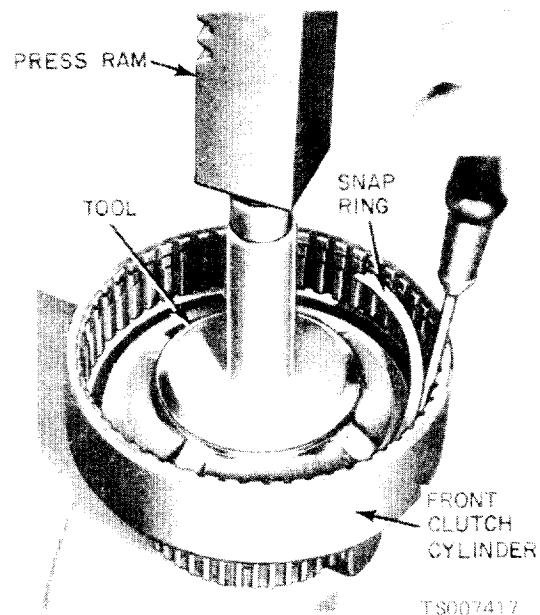
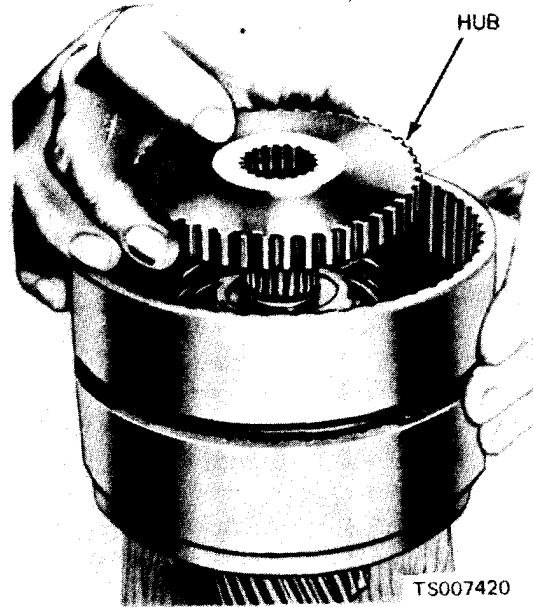

Figure 7-29. Removing Front Clutch Snap Ring.
Figure 7-32. Installing Front Clutch Hub.
(1) Remove the clutch cover snap rings with a screwdriver, and remove the input shaft from the clutch drum.
(2) Remove the thrust washer from the thrust surface of the clutch hub. Insert one finger in the clutch hub, and lift the hub straight up to remove the hub from the clutch drum.
(3) Remove the composition and the steel clutch plates, and then remove the pressure plate from the clutch drum.
(4) Place the front clutch spring compressor on the release spring. Position the clutch drum on the bed of an arbor press, and compress the release spring with the arbor press until the release spring snap ring can be removed (fig. 7-29).
(1) Lubricate all parts with transmission fluid. Install a new piston inner seal ring in the clutch cylinder. Install a new piston outer seal in the groove in the piston.
(2) Install the piston in the clutch housing. Make sure the steel bearing ring is in place on the piston.
(3) Position the release spring in the clutch cylinder with the concave side up. Place the release spring compressor on the spring, and compress the spring with an arbor press. Then install the snap ring as shown in figure 7-29. Make sure the snap ring is fully seated in the groove.
(4) Install the front clutch housing on the primary sun gear shaft by rotating the clutch units to mesh the rear clutch plates with the serrations on the clutch hub. Do not break the seal rings.
(5) Install the clutch hub in the clutch cylinder with the deep counterbore down (fig. 7-32). Install the thrust washer on the clutch hub.